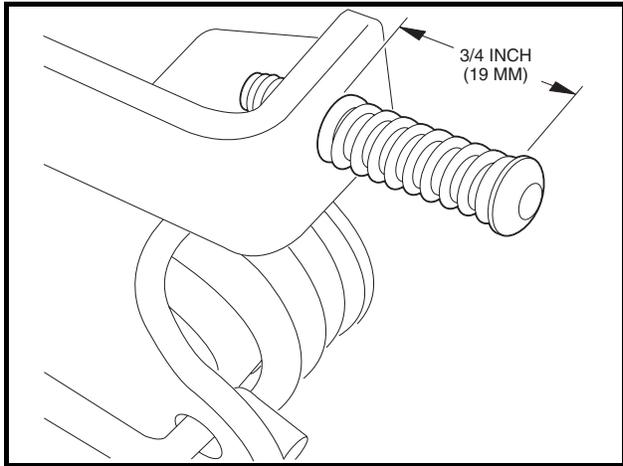

Figure 5-3 Ground Speed Set Screw Adjustment
2. Adjust the ground speed set screw to 3/4 inches (19 mm) as shown (**Figure 5-3, Page 5-2**).